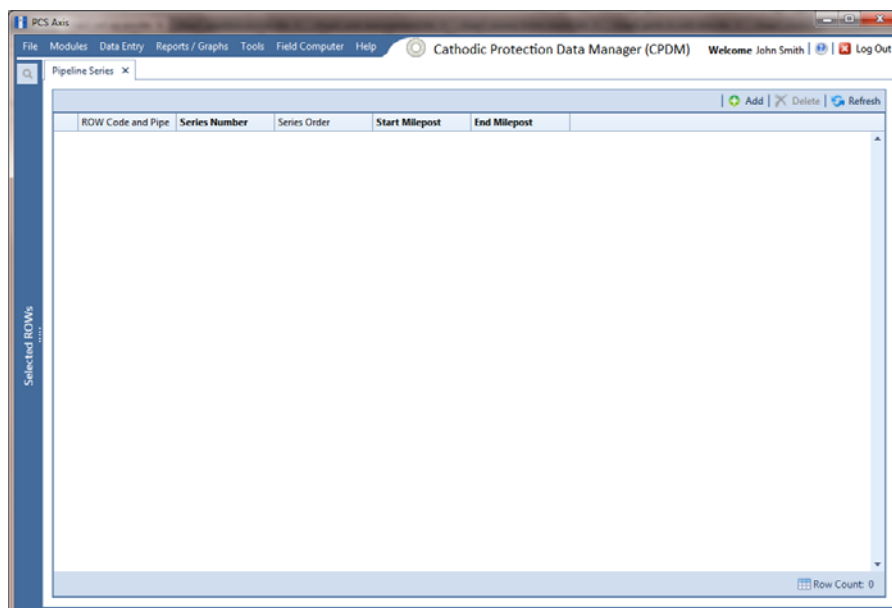

Figure 3-45. Pipeline Series
- 3 Click **Data Entry > Pipeline Series** to open the *Pipeline Series* window (Figure 3-45).